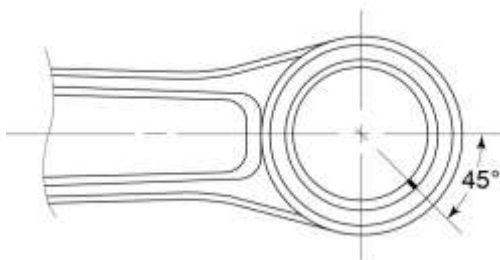

Figure 35
F. Make sure the split in the bushing is located so that it is toward the piston end of the connecting rod and 45° off the centerline (Figure 35) and press the bushing into the connecting rod until the edge of the bushing is flush with the surface of the connecting rod.